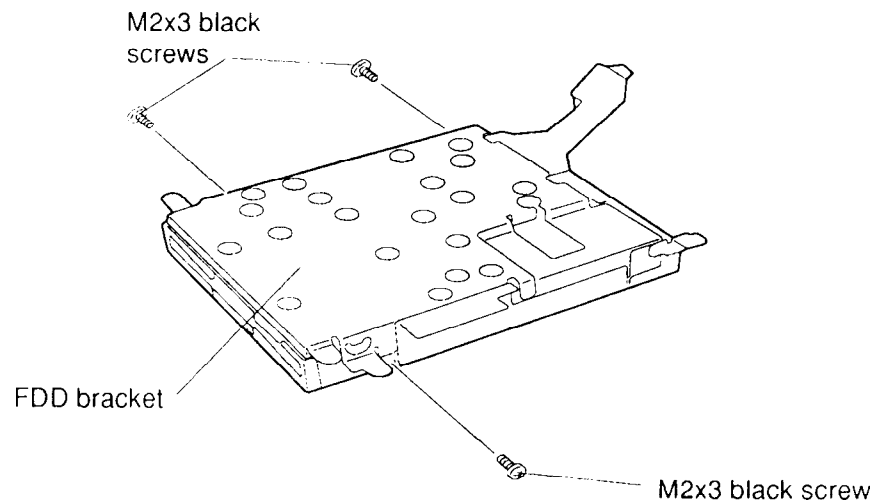

Figure 4-25 Removing the FDD Bracket
6. Remove the **three M2x3 black screws** securing the **FDD bracket** and remove the bracket (Figure 4-25).
1. Place the **FDD bracket** on the FDD and secure it with the **three M2x3 black screws** (Figure 4-25).